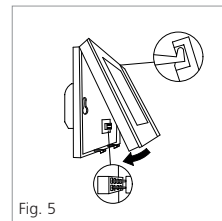

Fig. 5
5. Fasten body of thermostat and the mounting plate. See Fig 5.